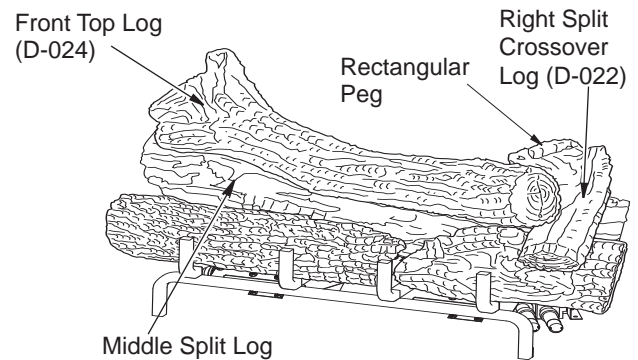

Figure 22 - Installing Large Middle Log
- For GTA/GTB logs, find the front top log (D-024). See **Figure 22**. The left end of this log has a square hole that fits over a square peg that is on the top of the middle split log. The right end of this log rests behind the knot on the top of the front right log.